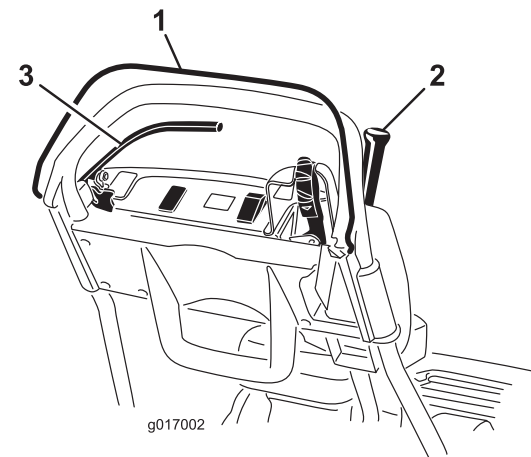

Figure 34
2. With the OPC released, attempt to engage the traction lever (Figure 34). The traction lever should not engage. If the traction lever engages, the interlock system needs service. Correct the problem before operating.
3. With the OPC pressed and the traction lever engaged, release the OPC (Figure 34). The traction lever should disengage. If the traction lever does not disengage, the interlock system needs service. Correct the problem before operating.
4. With the OPC pressed and the shift lever moved to the left, engage the traction and reel drive, release the OPC (Figure 34). The traction lever should disengage. If the traction lever does not disengage, the interlock system needs service. Correct the problem before operating;